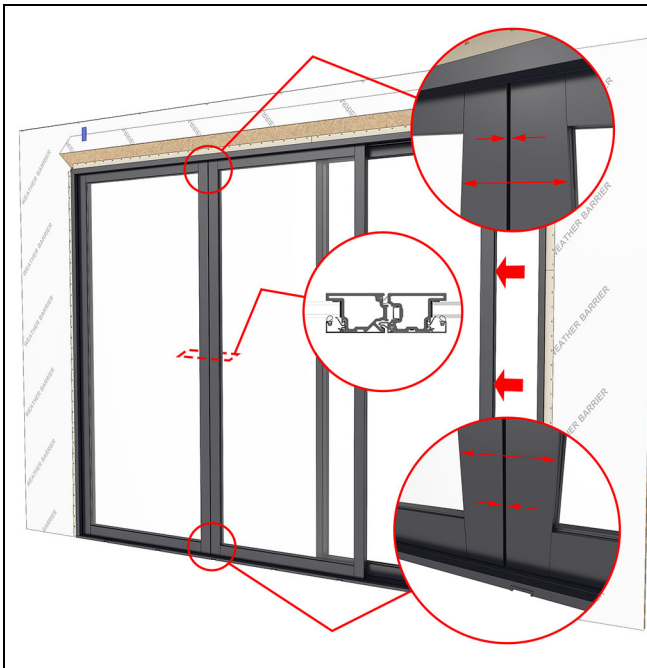

Figure 121
12. Slide the (C) panel over tight against the (H) stationary panel. Check to make sure you have an even reveal along the panel. The gap should be about 1/4" or less. See Figure 121.